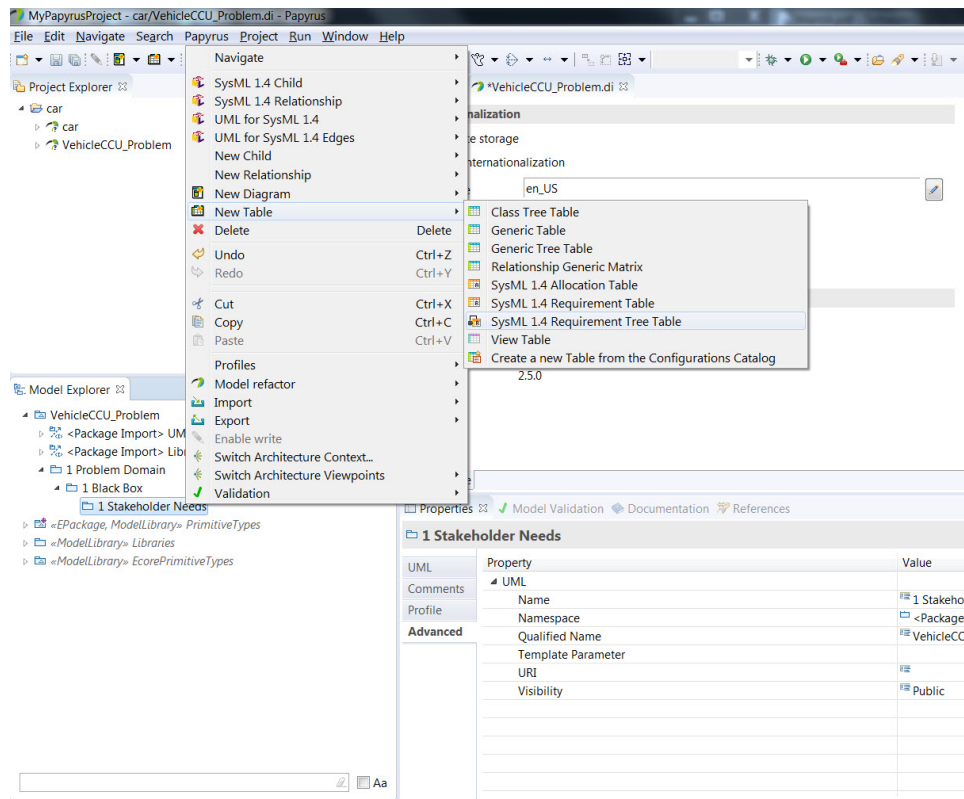

Figure 10: Creating a New Requirements Table
2. Right-click on the *1 Stakeholder Needs* package in the *Model Explorer* window and select **New Table > SysML 1.4 Requirement Tree Table** (figure 10). Name the table *Stakeholder Needs*. We want to use the Requirement Tree Table so we can have nested requirements in our requirements table.